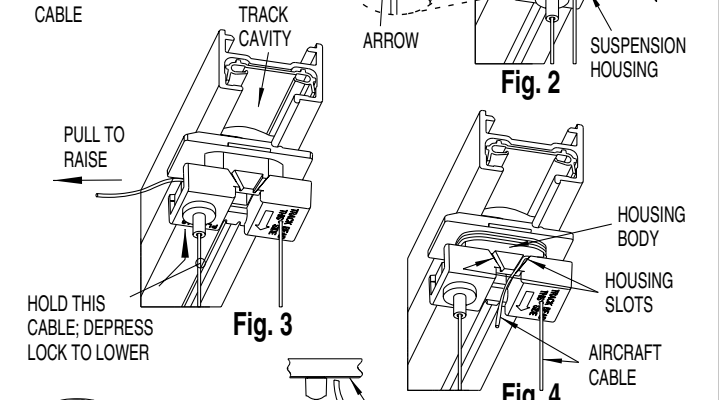

Fig. 2
3. Insert SUSPENSION HOUSINGS into TRACK with ARROW on bottom of HOUSING pointing toward BEAD on TRACK. See Fig. 2.
4. Rotate SUSPENSION HOUSINGS 90° clockwise. See Fig. 2.
8. To remove or reposition on track, rotate SUSPENSION HOUSING 90° counter clockwise. See Fig. 2.